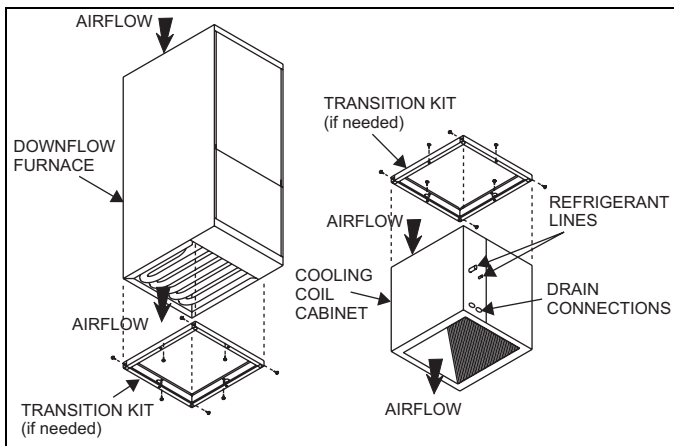

FIGURE 2: Transition Kit Assembly
**IMPORTANT:** The furnace, transition kit (when used), and the cooling coil cabinet **MUST BE SEALED** as needed to prevent leaks, **AND SECURED**. Refer to the assembly drawing in Figure 2.